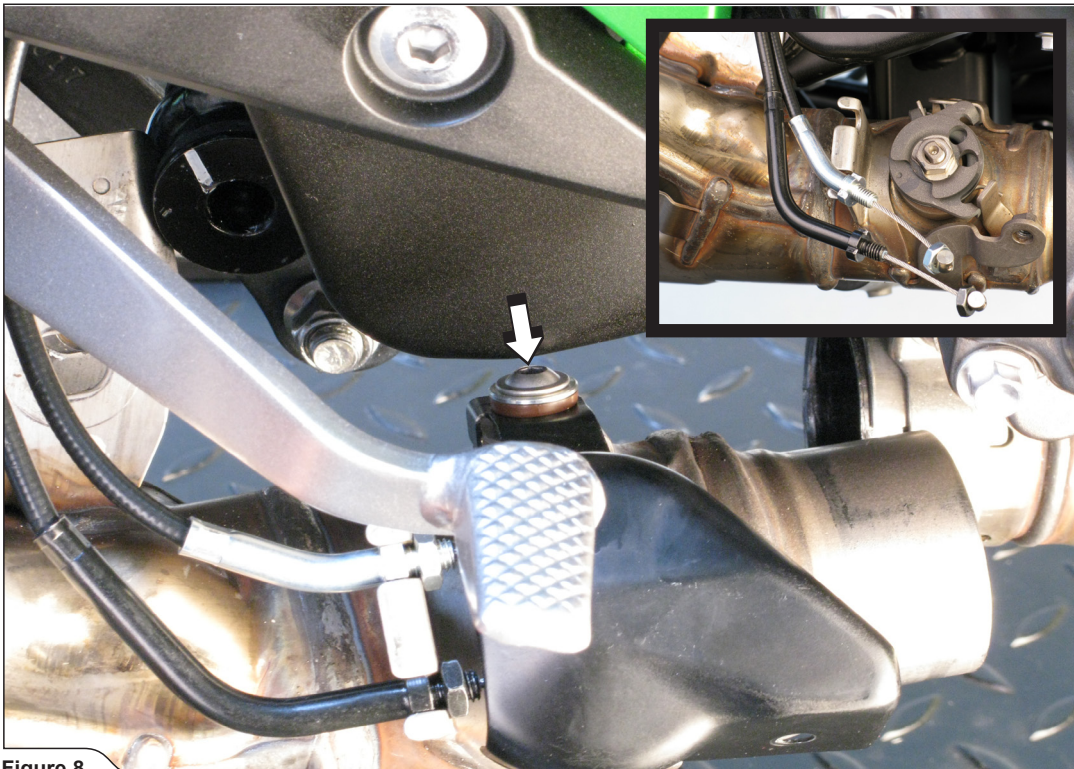

Figure 8
8. Remove muffler's bracket bolt and partially remove stock muffler. Unscrew the marked valve's heat shield bolt, remove the heat shield, disassemble the valve cables and remove stock muffler off the motorcycle (Figure 8).